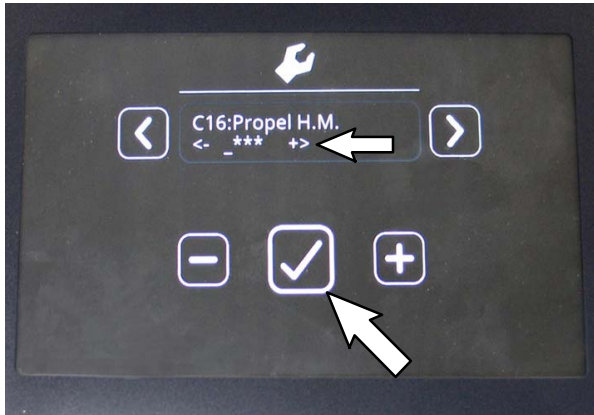

FIG. 26
22. Log in to the C16: Propel H.M. Screen (hour meter reset password is 0000): Use the minus (-) button to enter 0 (zero) at first asterisk. Use right arrow button to move to next asterisk and again use the minus (-) button to enter 0 (zero). Repeat for the remaining asterisks. Press the Check Mark button when finished. (Fig. 26)
23. Press the Check Mark button when finished entering 0 (zero) at the last asterisk. (Fig. 26)